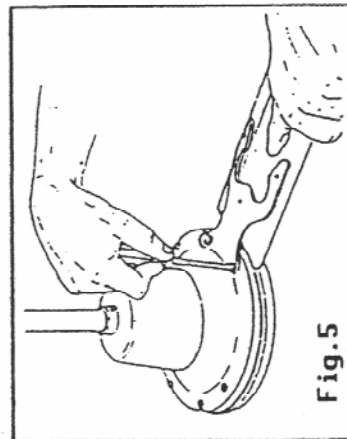

Fig. 5
1. Attach each of the 3 blades to the motor using 2 screws for each blade. Use hex/philips head screws with lock washers attached. Do not tighten any blade screws until all are in place. Final tightening is recommended using wrench or nut driver to make sure lock washers are fully compressed. (Fig.5)